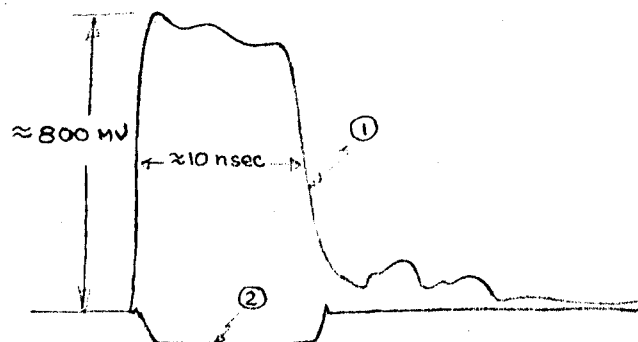

Fig. 3
- b) Connect Type 111 Signal Generator (rep. rate, max 10kc, 5 nsec charge line) to 4S2 A channel input through X10 GR attenuator. Connect the trigger output pulse from Type 111 to the 5T1 EXTERNAL input through X10 and X5 attenuators. Locate pulse on screen with 5T1 TIME DELAY control and by rotating THRESHOLD until triggered. Adjust THRESHOLD control and 111 REPETITION RATE control until two traces (two pulses of different amplitude) are obtained (see Fig.3). If pulses exhibit more noise than trace width, adjust Avalanche controls cw until noise disappears.